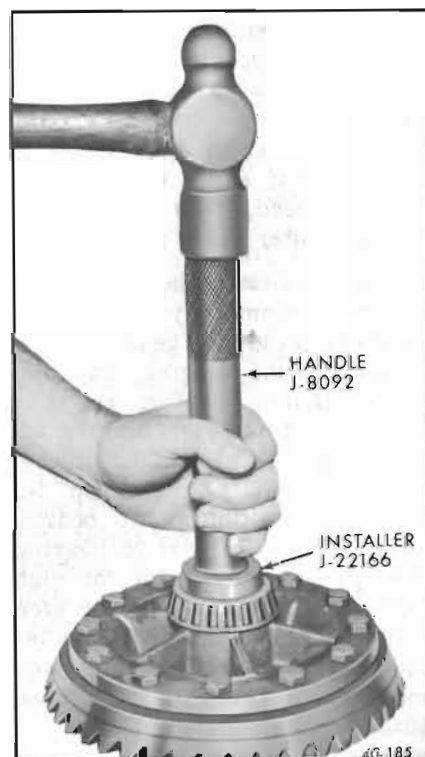

Figure 40-185—Installing Differential Side Bearings
8. If differential side bearings were removed, install new bearings using Installer J-22166 with Driver Handle J-8092. See Figure 40-185.